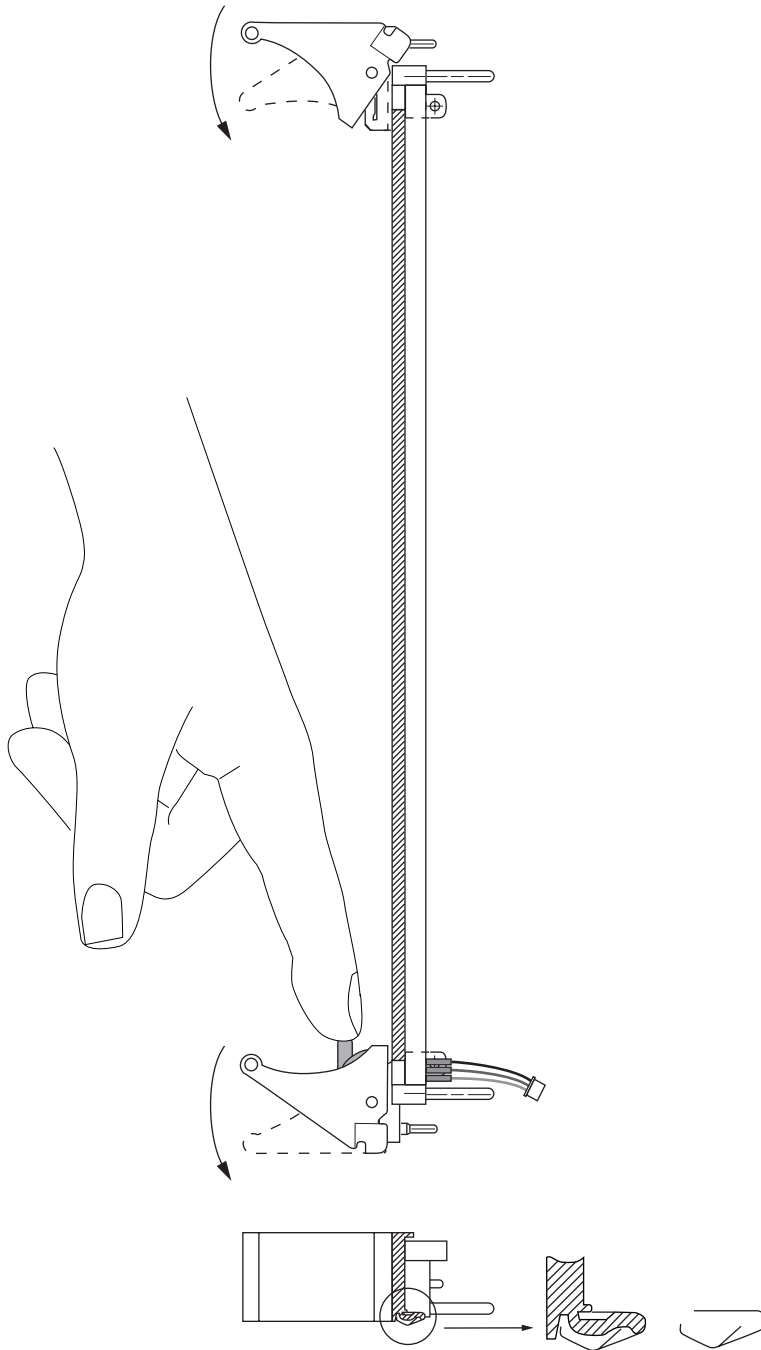

Figure 5-8 Releasing the Netra CP2060/CP2080 Injector/Ejector Handles
3. Slide the new satellite/IO board into the top and bottom mounting rails in the same slot into the backplane while gently keeping the board handles in open position. Once the board is all the way in, lock the ejector handles (see *Figure 5-8*). The blue LED will be ON once the board makes complete contact with the backplane. The LED will go OFF shortly after the ejector handles are closed, if the hardware initialization of the board is successful. Otherwise, it will remain ON, indicating that the board has to be replaced.
Figure 5-8 shows how to release the Netra CP2060/CP2080 injector/ejector handles.